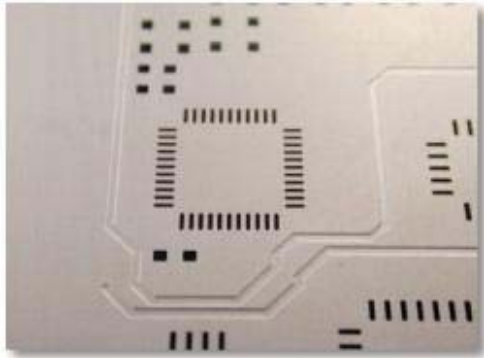

Figure 5: Additive trace relief pocket stencil.
4. **PCB with additive traces.** Additive traces are added to the surface of the PCB to correct a design problem by altering the lead wiring. Unfortunately, this trace adds height to the board surface. A stencil solution is to provide a relief pocket around the additive trace. An example of this stencil is shown in Figure 5.